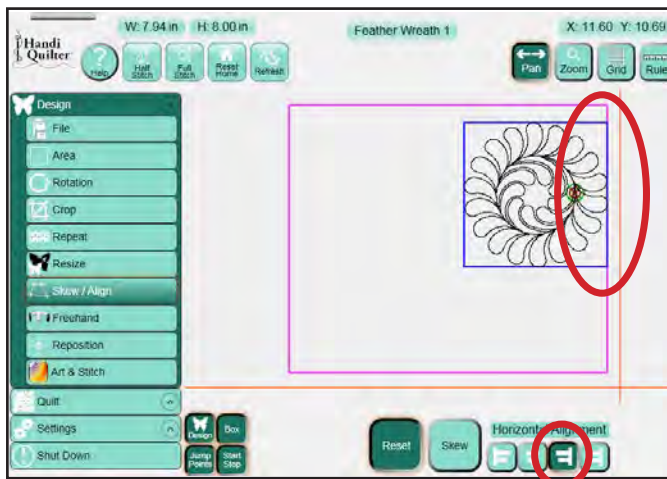

Figure 5.65
**Align Right:** (Figure 5.65) The right side of the design's bounding box aligns with the right-most point of the **Area**.